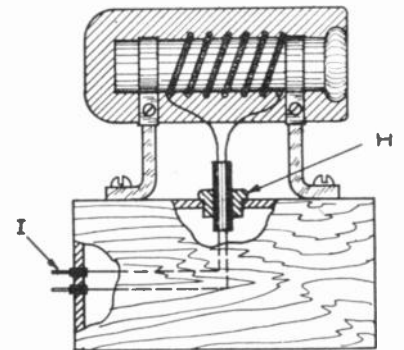

FIG. 5
Run the cable (F), down through a hole cut in the base, bushing the hole with a small one-half inch porcelain tube (H), Fig. 5, and connect the ends of the cable to the male part of an old electric iron connection (I).